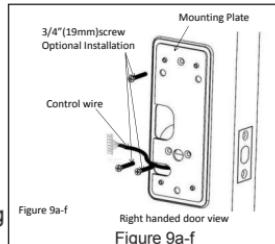

Figure 9a-f
- From the side marked "This side against door", route the Control Wire through the rectangular slot in the Mounting Plate (Figure 9a).